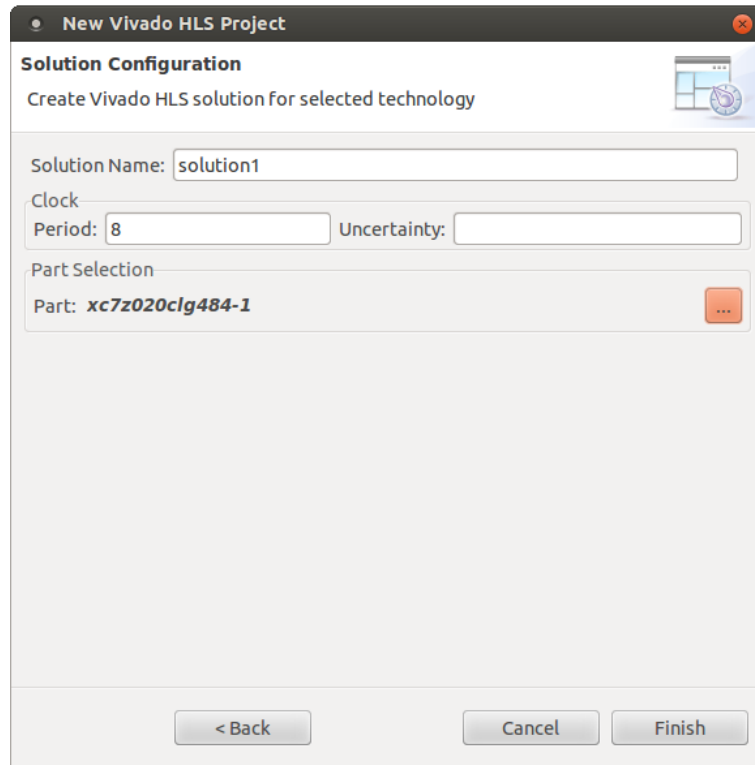

Figure 3.1.: Solution Configuration window.
6. *Solution Configuration* window should now look like in Figure 3.1. Click *Finish* to create the project.